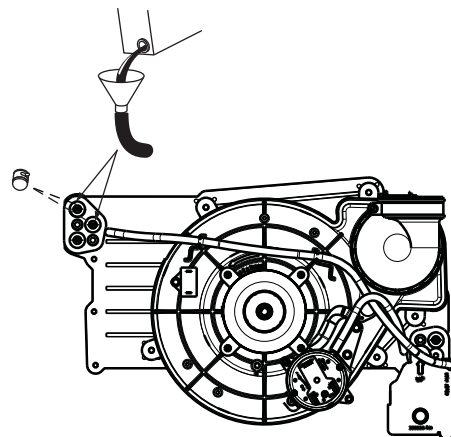

Fig. 67 - Priming Condensate Trap
4. Remove the top unused rubber plug from the port on the collector box opposite the condensate trap. See Fig. 67.
9. Remove the middle unused rubber plug from the port on the collector box opposite the condensate trap. See Fig. 67.